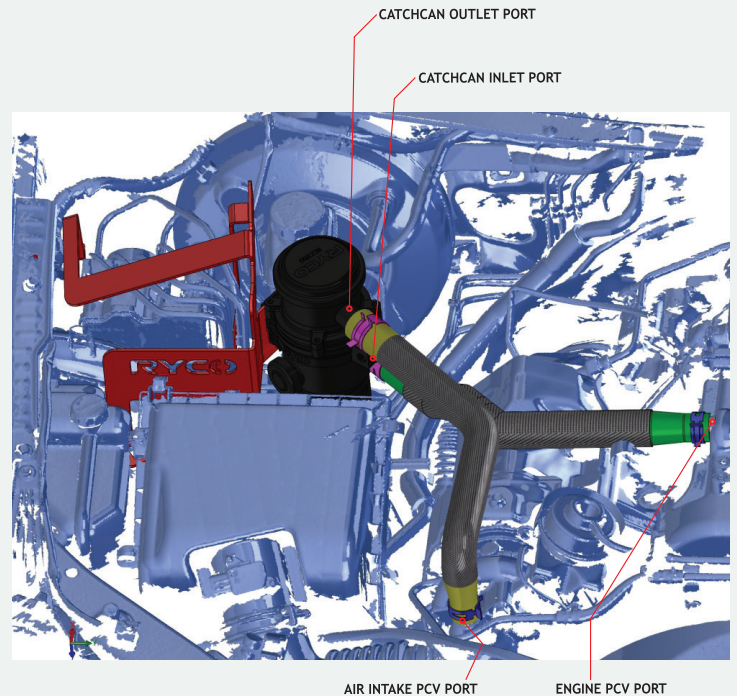

FIGURE 5A
- 12 Starting with the MH9810B PCV hose, install the small end on to the Engine PCV Port & tighten with the MS4094 hose clamp as shown in FIG. 5A & 5B.
- 13 Install the other end of the MH9810B PCV hose on to the lower, inlet port, of the RCC351 Catch Can and tighten with the MS4091 hose clamp as shown in FIG. 5A & 5B.
- 14 Install the larger end of the MH9810A hose on to the upper, outlet port, of the RCC351 Catch Can and tighten with a MS4091 hose clamp. Install the other end of the MH9810A PCV hose on to the Air Intake PCV port and tighten with a MS4094 hose clamp as shown in FIG. 5A & 5B.